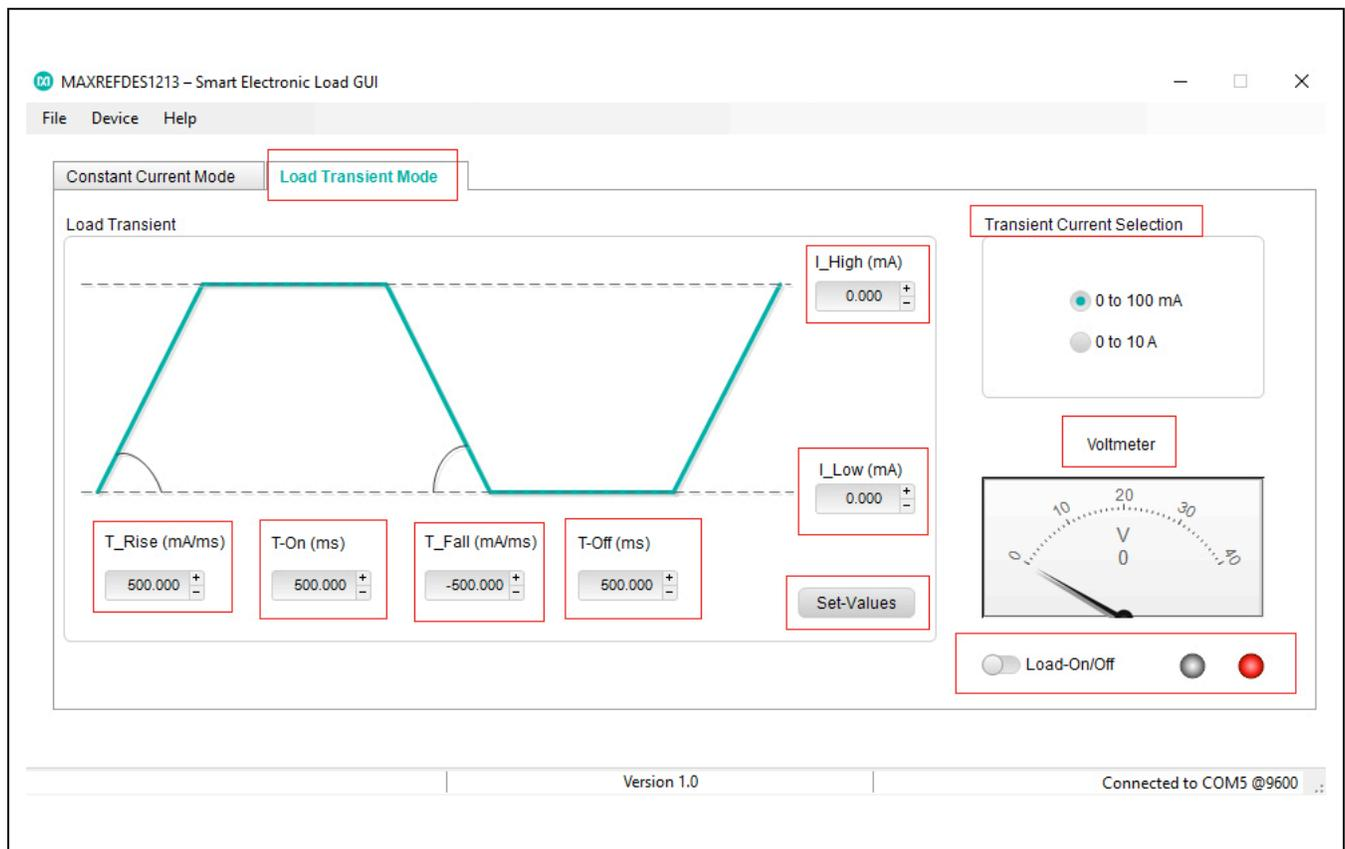

Figure 9. Load Transient Mode tab with the load turned off.
- 7) The **Load Transient Mode** tab (also known as Dynamic mode) is like the **Load** step in **EE-Sim**—the user can specify the two current ranges, both high and low, followed by the rise and fall speed and the on and off times of the signal. The following is a list of software controls on the tab (see Figure 9) followed by a short description: